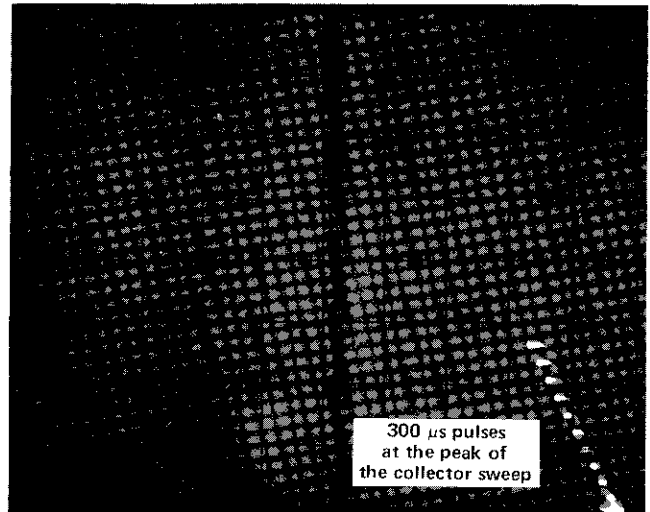

Fig. 12. Illustration of step 14 (300 μ s PULSED)
12. Note that the collector supply has switched to DC and each step is a short duration (300 μ s) pulse (see Fig. 12). Turn the VARIABLE COLLECTOR % control slowly counterclockwise and note that the curve is traced and stored (with D1 Display Unit).